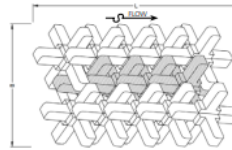

Figure 1: A-Jacks Module Plan View
The design approach detailed in HEC-23 (FHWA, 2009) examines the A-Jack system in modules, also called bundles. Modules are created by banding individual A-Jacks together in a densely interlocked matrix as shown in Figure 1. Multiple module sizes can be configured and evaluated to meet project specific needs by varying the length (L) and width (B) as defined and illustrated in Figure 1 where L is parallel to flow.